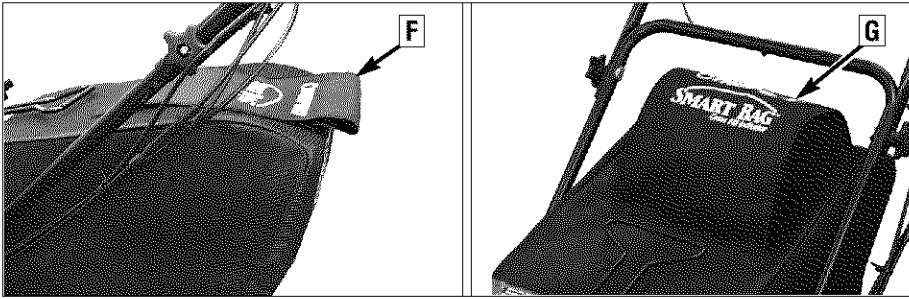

Figure 4-3: Smart Bag™ indicates when bag is full (F) and not full (G).
The Grass Catcher also has a Smart Bag™ grass-fill indicator (Figure 4-3) which makes it easy to tell when the bag is full. The indicator is a rectangular piece of cloth sewn to the top of the bag. The indicator lays flat against the bag when the bag is full (F, Figure 4-3) and billows (G) when the bag is not full.
1. When mowing, the Grass Catcher is full when the grass fill indicator lays flat against the bag (F, Figure 4-3).